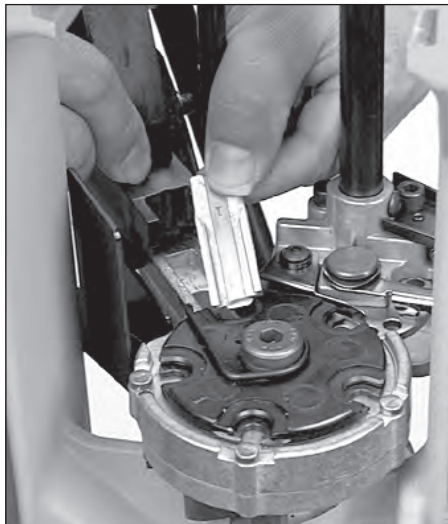

FIG 175
Step 11) Install the new Station 1 locator **FIG 175**: